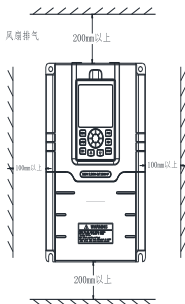

fig.3-1 Mounting space and distance
- (1) Generally in vertical way.
- (2) For the requirements on mounting space and distance, refer to Fig.3-1.